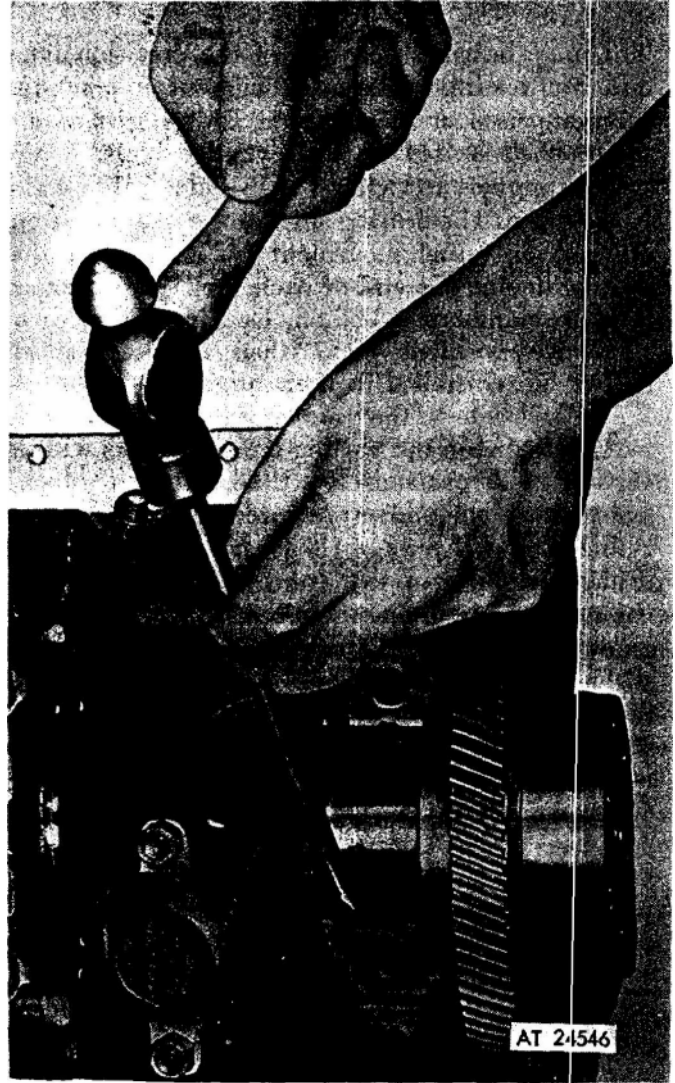

Figure 3. Removing rear main bearing upper shell— crankshaft in place
4. Remove rear main bearing upper shell by driving on the edge of the bearing shell with a small curved rod, (fig. 3), at the same time revolving the crankshaft, thus rolling the shell from its position.